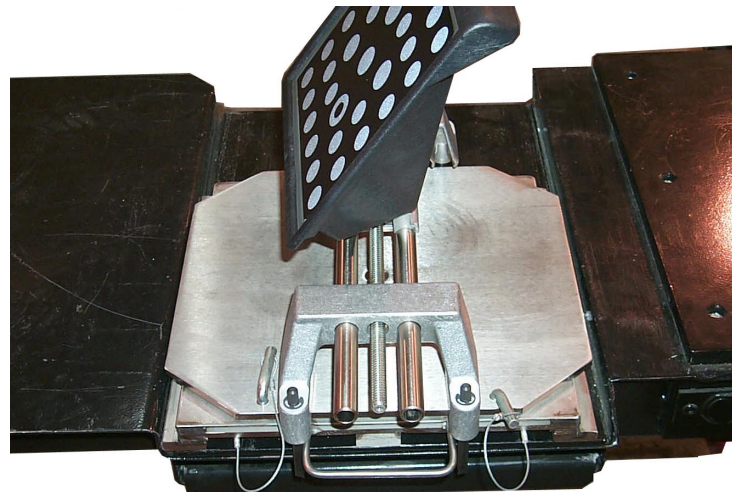

Figure 24
- H. Clamp the front targets to the turntables making sure they are centered on the turntable. Move the left turntable-target assembly out until a portion of the front target can be seen in the left camera view screen (Figure 24). Levers are still all the way out. Mount the right front target on the turntable and move the assembly out to the same distance from the rack centerline as the left turntable-target assembly.